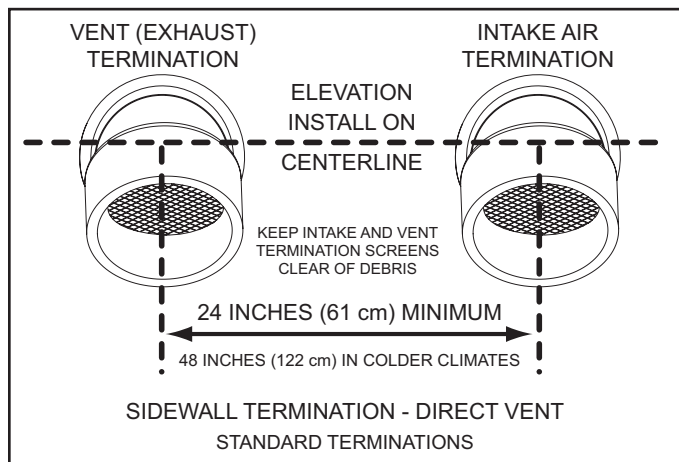

Figure 25
15. If installing both an intake air and vent termination in a Direct Vent configuration through a sidewall there must be a minimum of 24 inches (61 cm) separation, measured on vertical center line, between the intake air and vent terminations, see Figure 25.
16. If installing both intake air and vent terminations in a Direct Vent configuration through a sidewall the intake air and vent terminations must be installed at the same elevation measured on horizontal center line - see Figure 25.
However, the distance between the closest vent and intake air terminations must be a minimum of 24 inches (61 cm). In colder climates this separation should be increased to at least 48 inches (122 cm). See Figure 25.